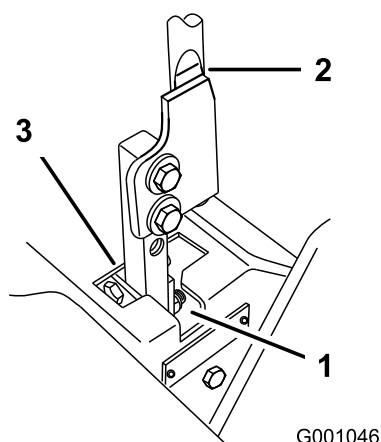

Figure 66
5. Move the lever to the neutral position but not locked (Figure 66).
6. Pull the lever back until the clevis pin (on arm below pivot shaft) contacts the end of the slot (just beginning to put pressure on the spring) (Figure 66).
7. Check where the control lever is relative to notch in console (Figure 66). It should be centered allowing lever to pivot outward to the neutral lock position.